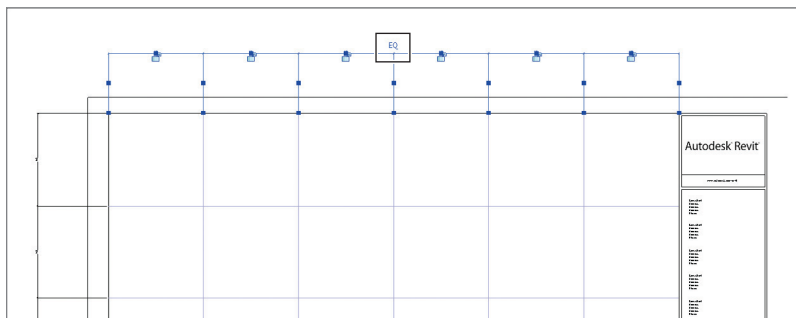

FIGURE 6.29 Adding and dimensioning grid lines
5. Draw five vertical lines and four horizontal lines (Figure 6.29). Dimension them with a continuous dimension (the dimensions will not show up in the project environment). Select the EQ option, and all the lines become equally spaced.